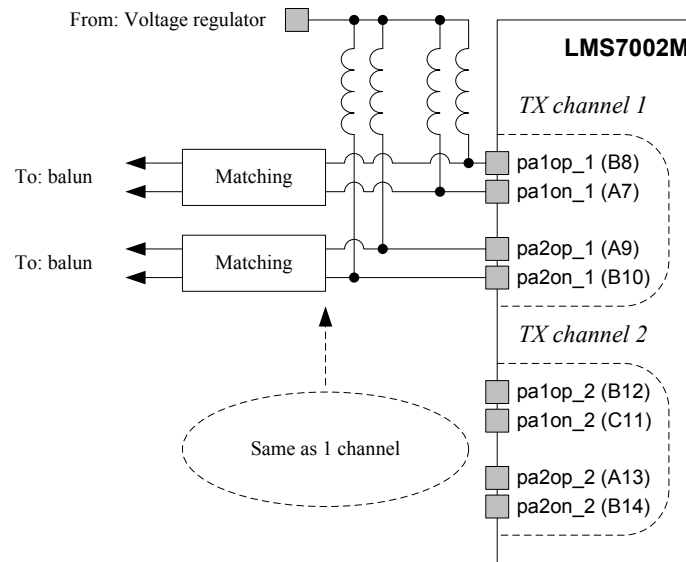

Figure 5. LMS7002M TX output connection
TX power amplifier (PA) is supplied from its output pins from a 1.8V source. A typical TX output connection is shown in Figure 5. The inductor and matching network values depend on desired output frequency. There are two power amplifier outputs per TX channel and only one can be working at a time. The maximum power supply requirement per channel is 100mA (MIMO mode 200mA), with a typical value close to 70mA (MIMO mode 140mA).